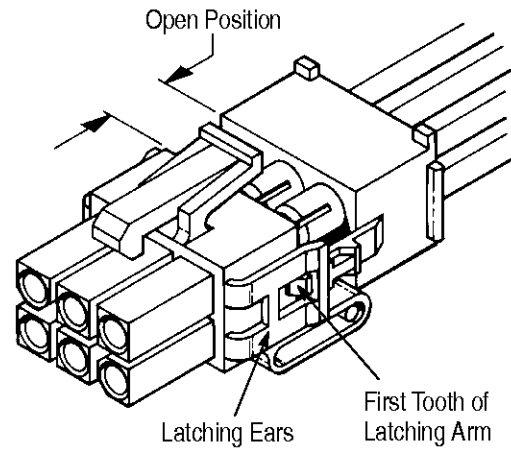

Figure 9
1. Deflect latching ears one at a time, then lightly pull wire end of the plug assembly away from housing until the first tooth of the latching arms engage. See Figure 9.